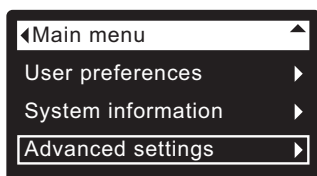

FIG. 86
1. From any of the rolling status screens, press the SELECT (O) button to display the **Main menu**.
2. Press the DOWN (▼) button to scroll through the menu options until **Advanced settings** is highlighted (See Figure 86).